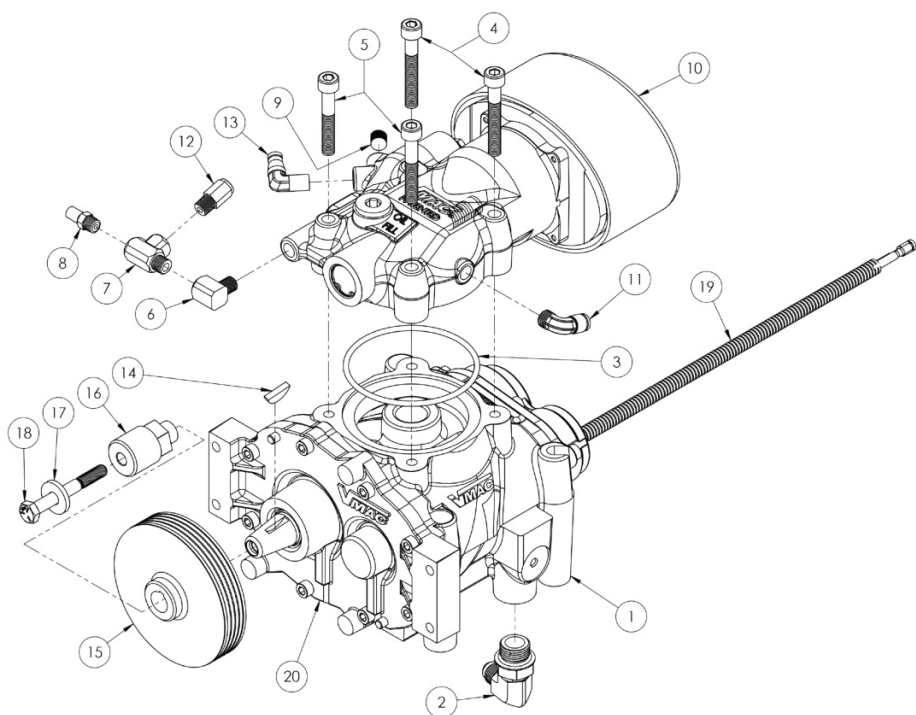

Figure 79 — Compressor Assembly (P190011)
2. Compressor Assembly, P190011 (Figure 79)